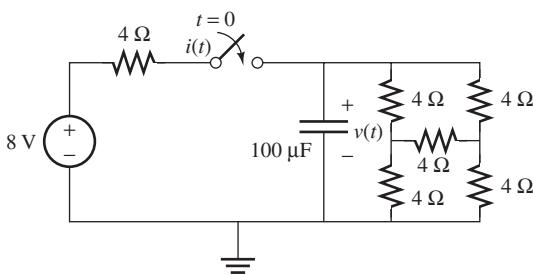

FIGURE P5.26 Circuit for Problem 5.26.
- 5.26 (B)** Consider the circuit shown in Figure P5.26. The switch closes at $t = 0$; find $v(0^+)$, $i(0^+)$, and $v(\infty)$.